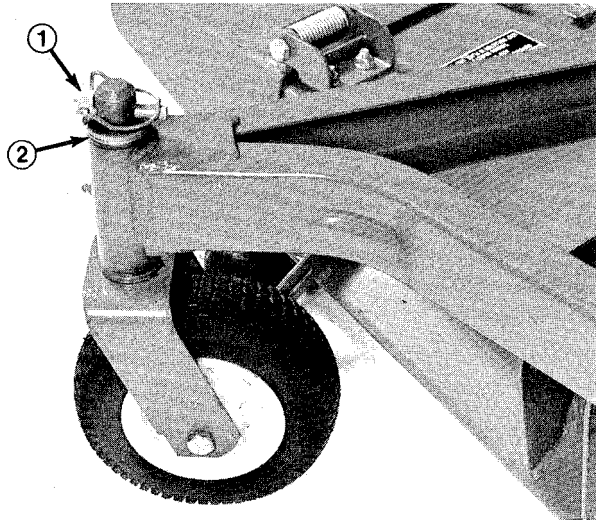

Figure 26
4. Insert pin punch into top or bottom of mounting tube and drive bushing out of tube (Fig. 26). Also drive other bushing out of tube. Clean inside of mounting tube to remove any dirt.